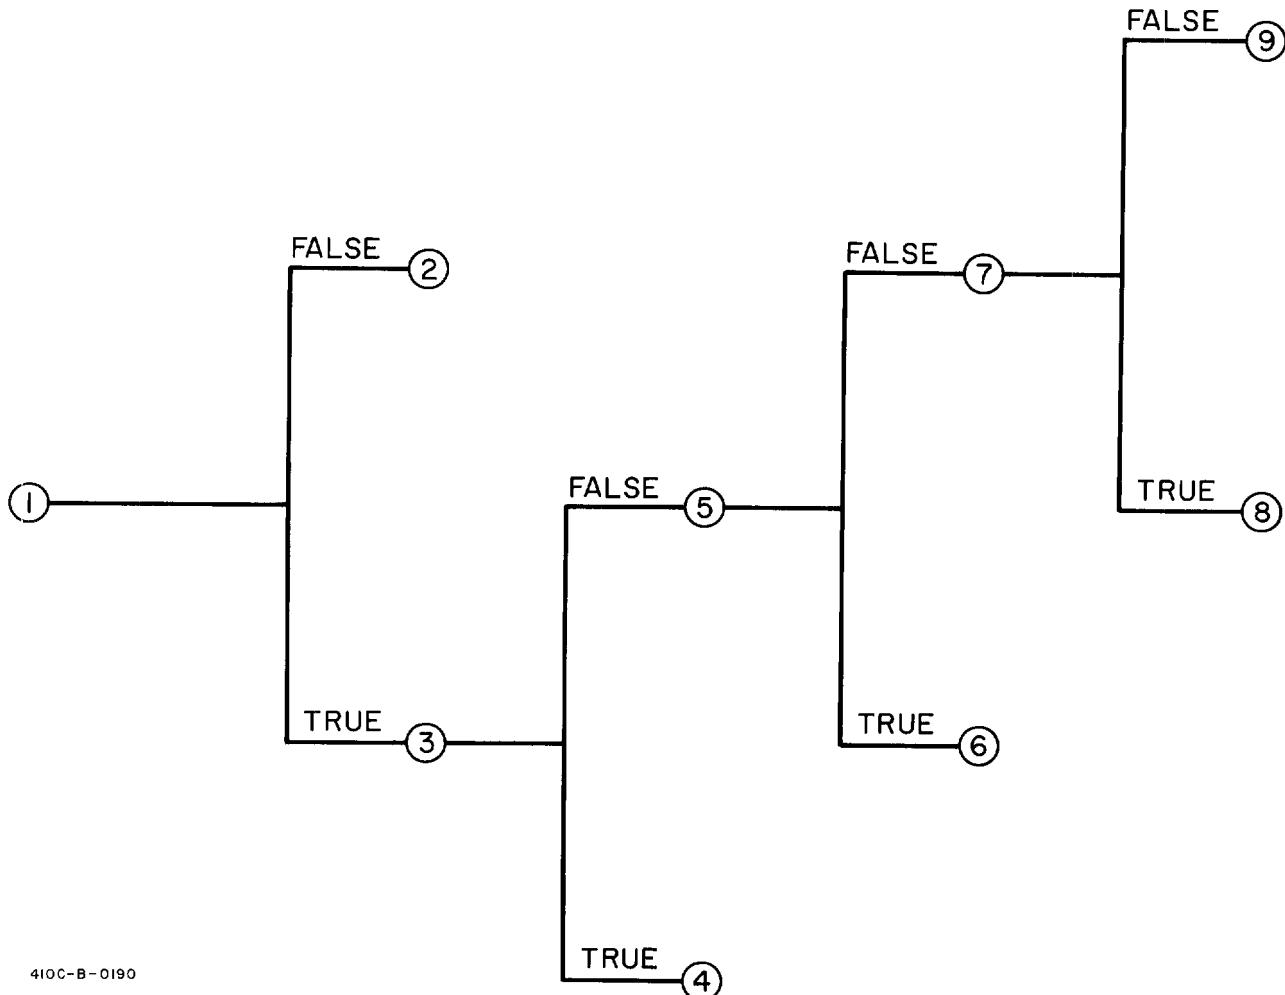

Figure 5-5. Troubleshooting Tree
5-40. Table 5-10, in conjunction with Figure 5-5, contains procedures which may be used as a guide in isolating malfunctions. The steps in Table 5-10 describe the normal conditions which should be encountered during the checks (circled numbers (N)) in Figure 5-5.